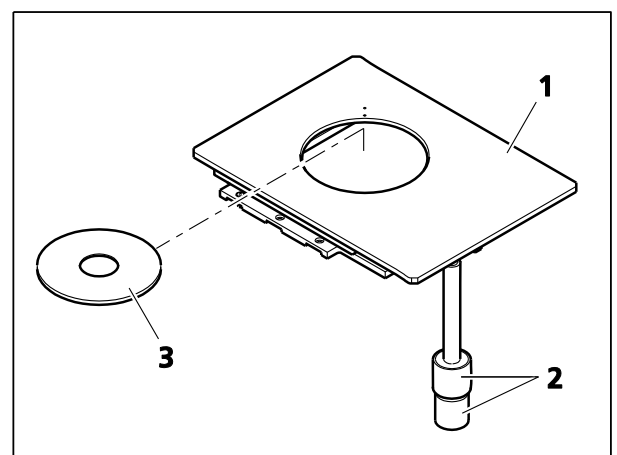

Fig. 2-3 Mechanical Stage 40x40 for Reflected Light with Stage Insert
- Mechanical stage (Fig. 2-3/1) designed to hold and position reflected light specimens, equipped with coaxial drive (Fig. 2-3/2) for XY adjustment
- Suitable for use with $d = 115$ mm stage inserts (Fig. 2-3/3).